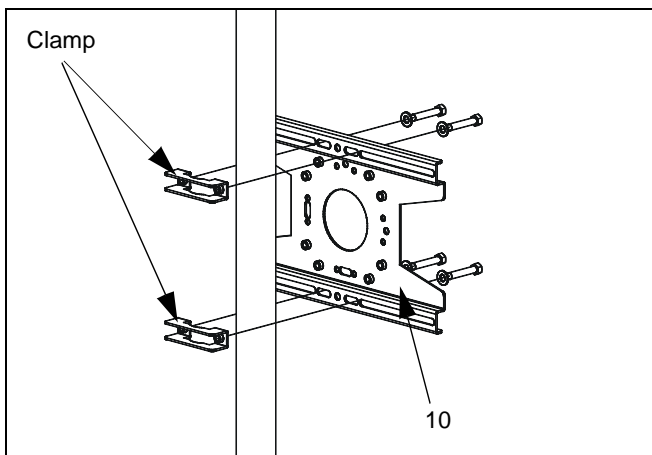

Figure 3: Install Back Plate to Pole
2. Attach truss plate (10) to pole using Chief accessory clamps or equivalent. (See Figure 3)
3. Attach truss plate (10) to truss using Chief accessory clamps or equivalent. (See Figure 3)